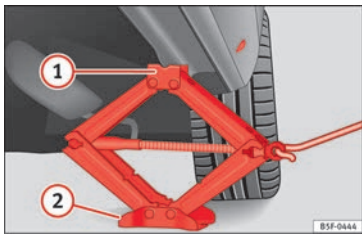

Fig. 76 Strut: mounting the jack on the vehicle.
- Turn the jack* crank handle, located below the strut support point, to raise it until the tab ① » » Fig. 76 is below the housing provided.
- Align the jack* so that tab ① “grips” onto the housing provided on the strut and the mobile base ② is resting on the ground. The base plate ② should fall vertically with respect to the support point ①.